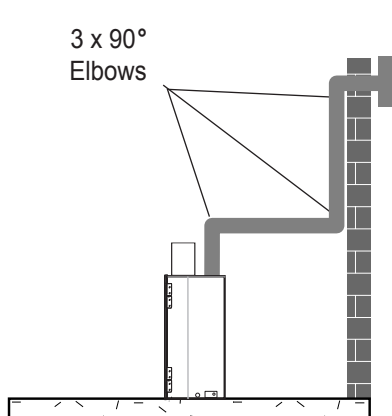

Figure 18 - Maximum Three (3) 90 Elbows Per Installation
The maximum number of 90° elbows per side wall installation is three (3), the maximum horizontal run is 24" (Figures 18, 19).